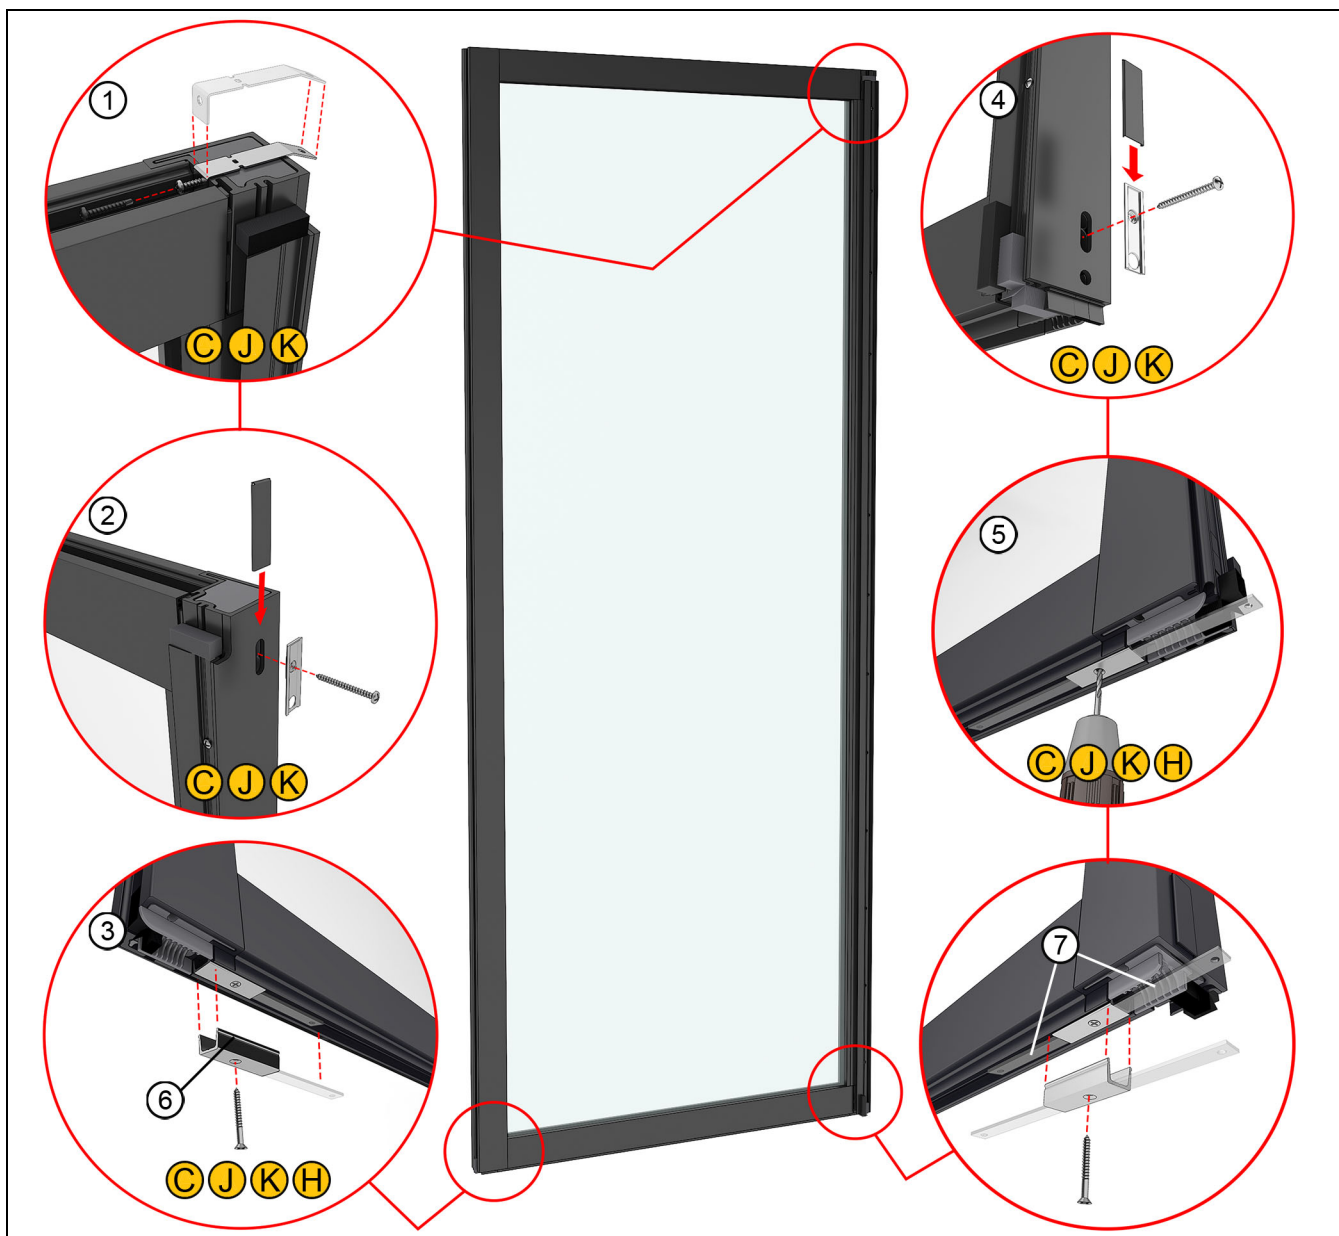

Figure 74
NOTE: Refer to Figure 74 on page 27 for all steps in this section.
1. On stationary panels (C,J, K) place the upper stationary bracket over the interlock stile(s) and attach with a #8 x 1" (25) screw through the corner key. See Figure 74 (1).
2. On stationary (C, J, K) and secondary panels, fasten the cover retainer to the top and bottom of the stiles with a #8 x 1 3/4" (44) Phillips head screw. Slide the cover over the retainer. See Figure 74 (2) and (4).
3. On stationary panels (C,J, K, H) place the lower stationary leveling block in the bottom rail channel. Align the wide part of the leveling block with the seam between corner key and the rail, then pre-drill with a 1/8" (3) drill bit. Fasten with a #8 x 1 1/2" (38) Phillips head screw. See Figure 74 (3) and (5).